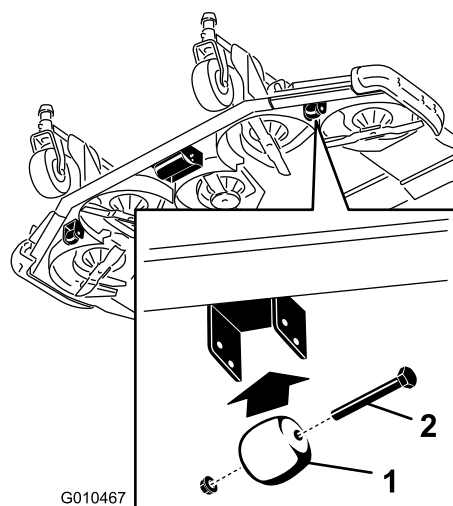

Figure 29
1. Remove the screw and nut securing the roller shaft to the deck bracket (Figure 29).
1. Remove the bolt and nut securing the gage wheel to the mower-deck brackets (Figure 29).